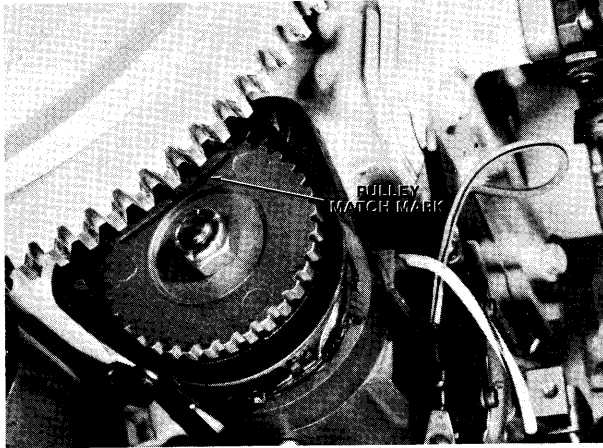

Figure 3 - Aligning Distributor Pulley Match Mark With Flywheel
- J. Turn flywheel to align TDC mark on decal with index mark on timing pointer. Turn distributor pulley to match the index mark on pulley with outside diameter of flywheel. See figure 3.